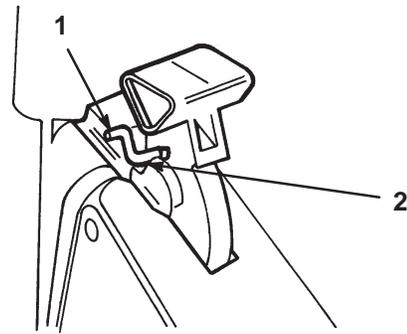

Figure 36
5. Pull the handle rearward until the handle latch locks into the notch in the bag door latch (Fig. 36).
Note: In Figure 36, the brush guard is not shown for the purpose of clarity.